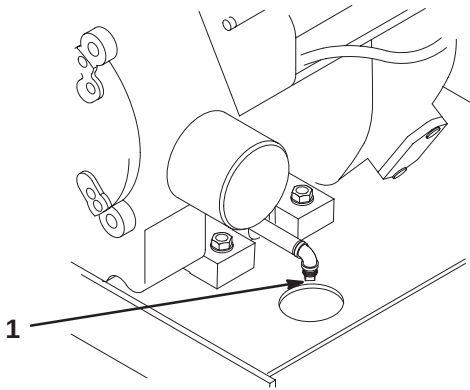

Figure 25
3. Place a pan below the oil drain. Remove the oil drain plug (Fig. 25).
5. Slowly pour approximately 80% of the specified amount of oil specified, page 41, into the filler tube (Fig. 25). Now check the oil level; refer to Checking Oil Level, page 41. Slowly add additional oil to bring to "FULL" mark on dipstick.